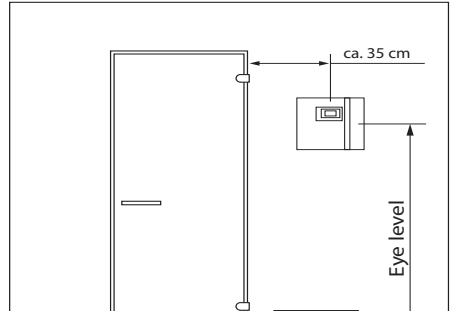

Fig. 2
1. The 3 mm diameter boreholes for the supplied wood screws 4 x 20 mm are drilled according to the dimensions shown in Fig. 2 + 3.